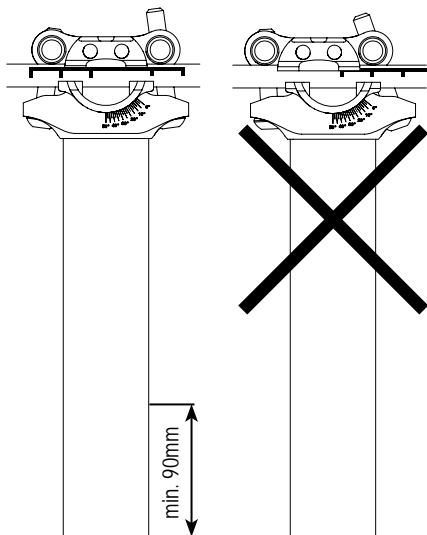

fig. 1
You can cut the length of the "NC-17 Empire Pro/S-Pro" seatpost at any position. This will NOT void the warranty. Every "NC-17 Empire Pro/S-Pro" seatpost can be clamp at any height as long as the minimum insertion is met. For an uncut seatpost you can use the maximum height line laser engraving at the post. If you cut the seatpost tube, take care of the minimum insertion of 90mm into the frame. (figure 1) Exceeding this insertion restriction may damage your frame or seatpost and will result in premature failure of the post. Before you ride, you have to check, that the seatpost tube can't damage the rear shock or other parts at every time. If there is a damage of your parts because of a faulty installation, NC-17 will not warranted for this. For cutting the seatpost we recommend to use a pipe cutter so the end of the tube will be smooth. If not available, use a good quality hack saw. A bicycle steer tube cutting guide is useful for ensuring a straight cut. Remove all sharp edges with a file. Check the diameter before you assemble the seatpost.
3. Now it's time to reassemble the upper clamping plate and adjust the position of the saddle. Pay attention to the scale on saddle-rails! Adjust the saddle between the scale and find your personal position, after adjusting you have to tighten the clamping bolts. (figure 1) Use the 5mm hex key wrench and tighten the bolts to 10Nm (88,5 lb-in). Don't clamp the saddle outside the scale!!! Re-torque the clamp bolt after your first ride and re-inspect periodically.
Attention: The upper clamping plate has to be in a centric position above the lower clamping plate. (figure 1) Otherwise saddle rails or seatpost can be damaged when you tighten the clamping bolts.